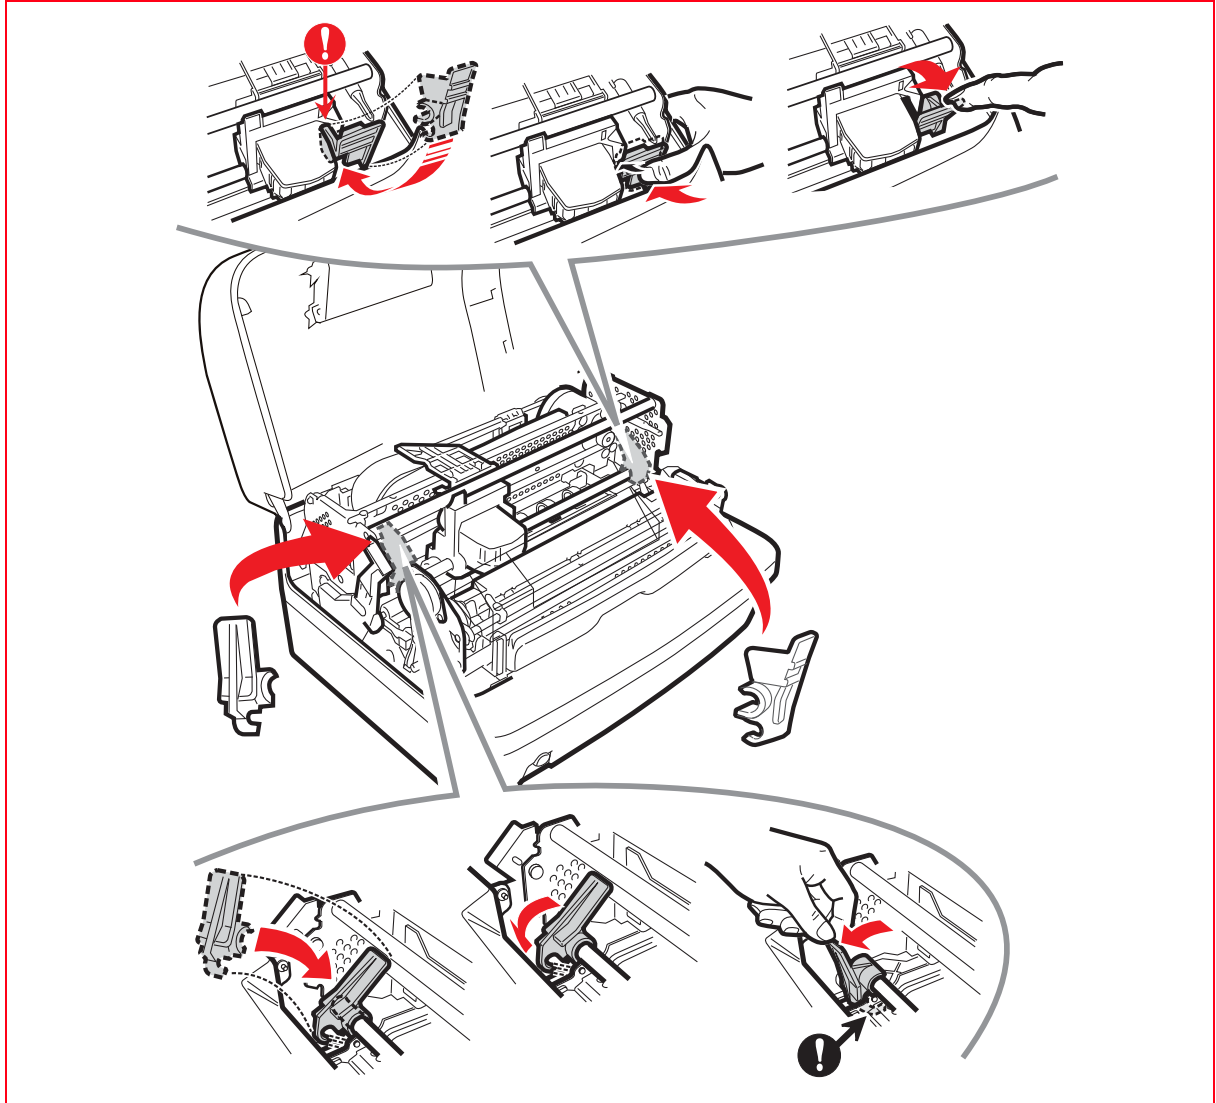

Figure 2 - 12 Reassembling the blocking devices for transportation
4. Put back into position the two foam paddings and the card. Refer to the Figure 2 - 3.